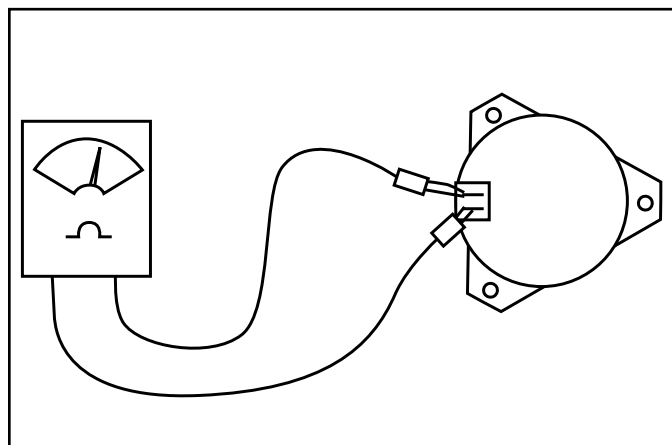

Fig. 129
4. Connect the meter lead wires to the terminals in the clutch connector (Fig. 129).